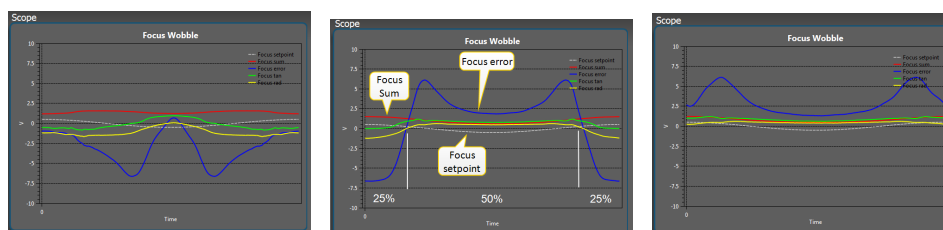

Figure 3-14 Scope window during Writing Module height adjustment: too high (l), good height (m), too low (r)
19. Turn the adjustment hand screw while watching the Scope window, see Figure 3-14.